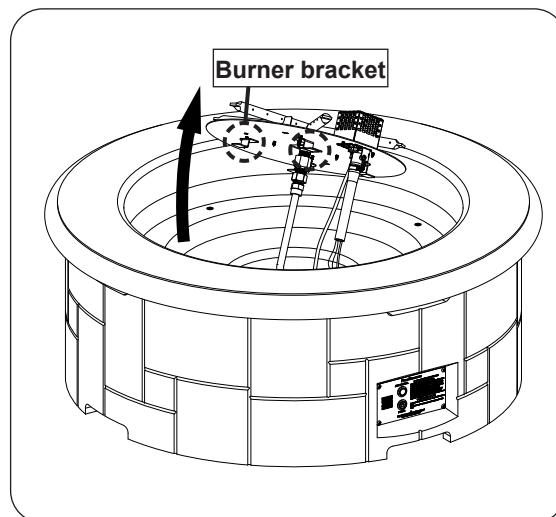

Fig. 27-2 Remove burner assembly
2. Use a $\frac{5}{16}$ " nut driver to partially unfasten the four screws found on the burner assembly. Then carefully remove the burner and set it off to the side. See Fig. 27-2.